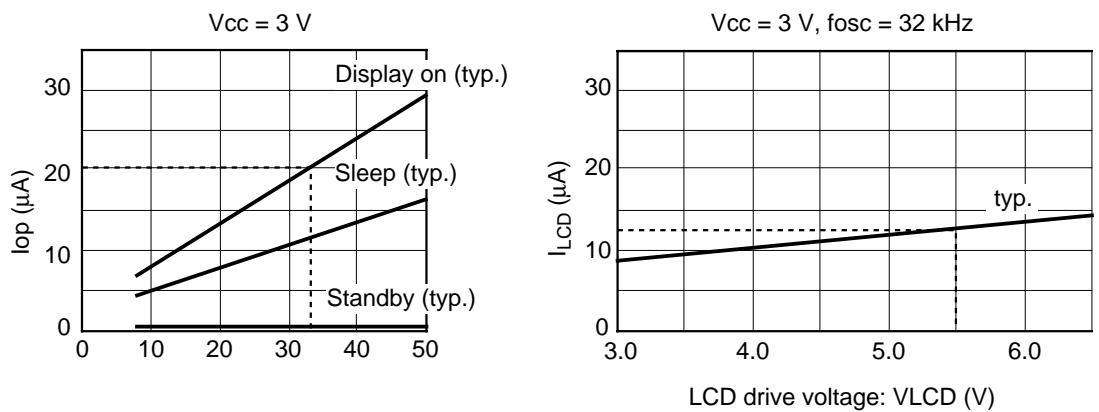

Figure 60 Relationship between the Operation Frequency and Current Consumption
8. Applies to the resistor value (RCOM) between power supply pins V1OUT, V2OUT, V5OUT, GND and common signal pins (COM1 to COM24, COMS1 and COMS2), and resistor value (RSEG) between power supply pins V1OUT, V3OUT, V4OUT, GND and segment signal pins (SEG1 to SEG72 (96)), when current Id is flown through all driver output pins.
11. The following shows the relationship between the operation frequency (fosc) and current consumption (Icc) (figure 60).